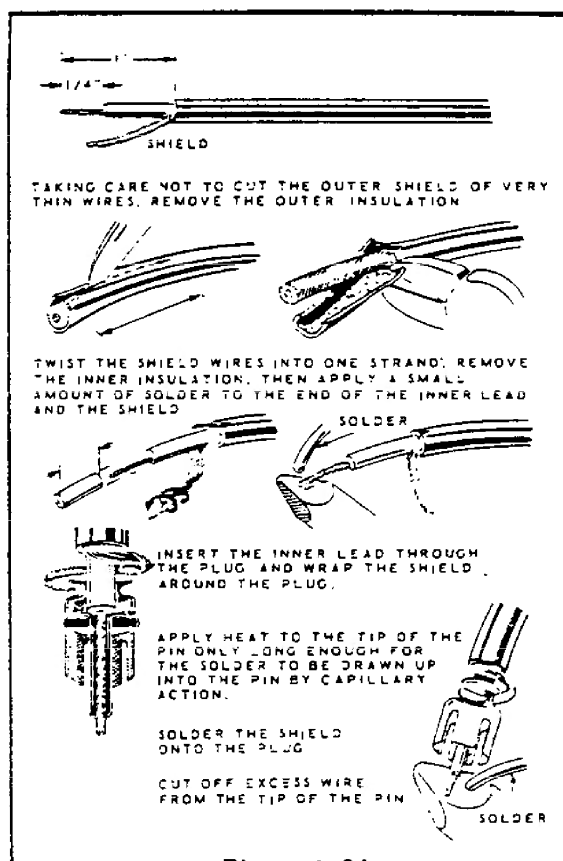

Figure 1-2A
- () Cut the speaker wires to the length required for your installation. Refer to Figure 1-2A to attach a phono plug to the speaker wires.
- () Connect the 50 Ω dummy load to the ANT phono socket on the rear of the chassis. If necessary, refer to Figure 1-2A and attach a phono plug to the 50 Ω dummy load antenna.